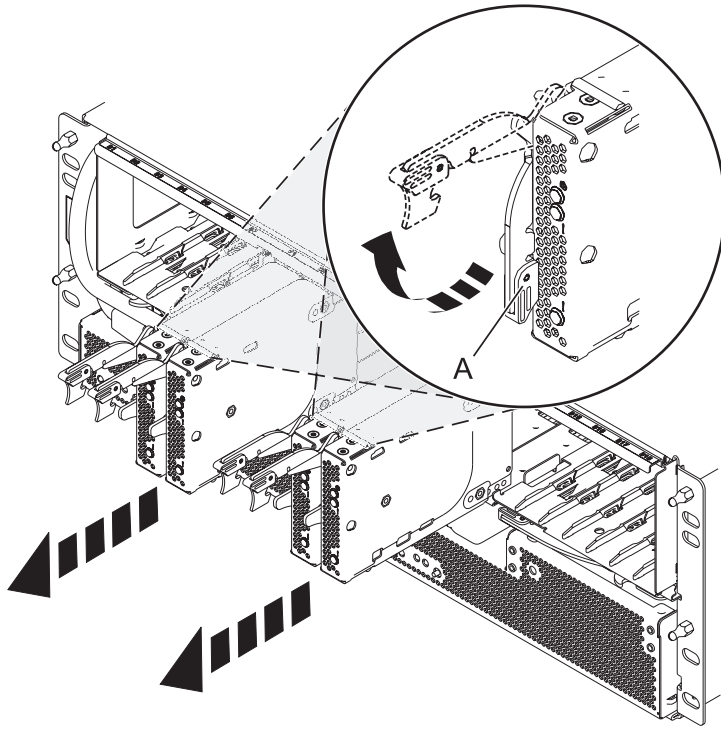

Figure 95. Removing the port card from the backplane
5. Remove the port cards and fillers as shown in Figure 95 on page 128.